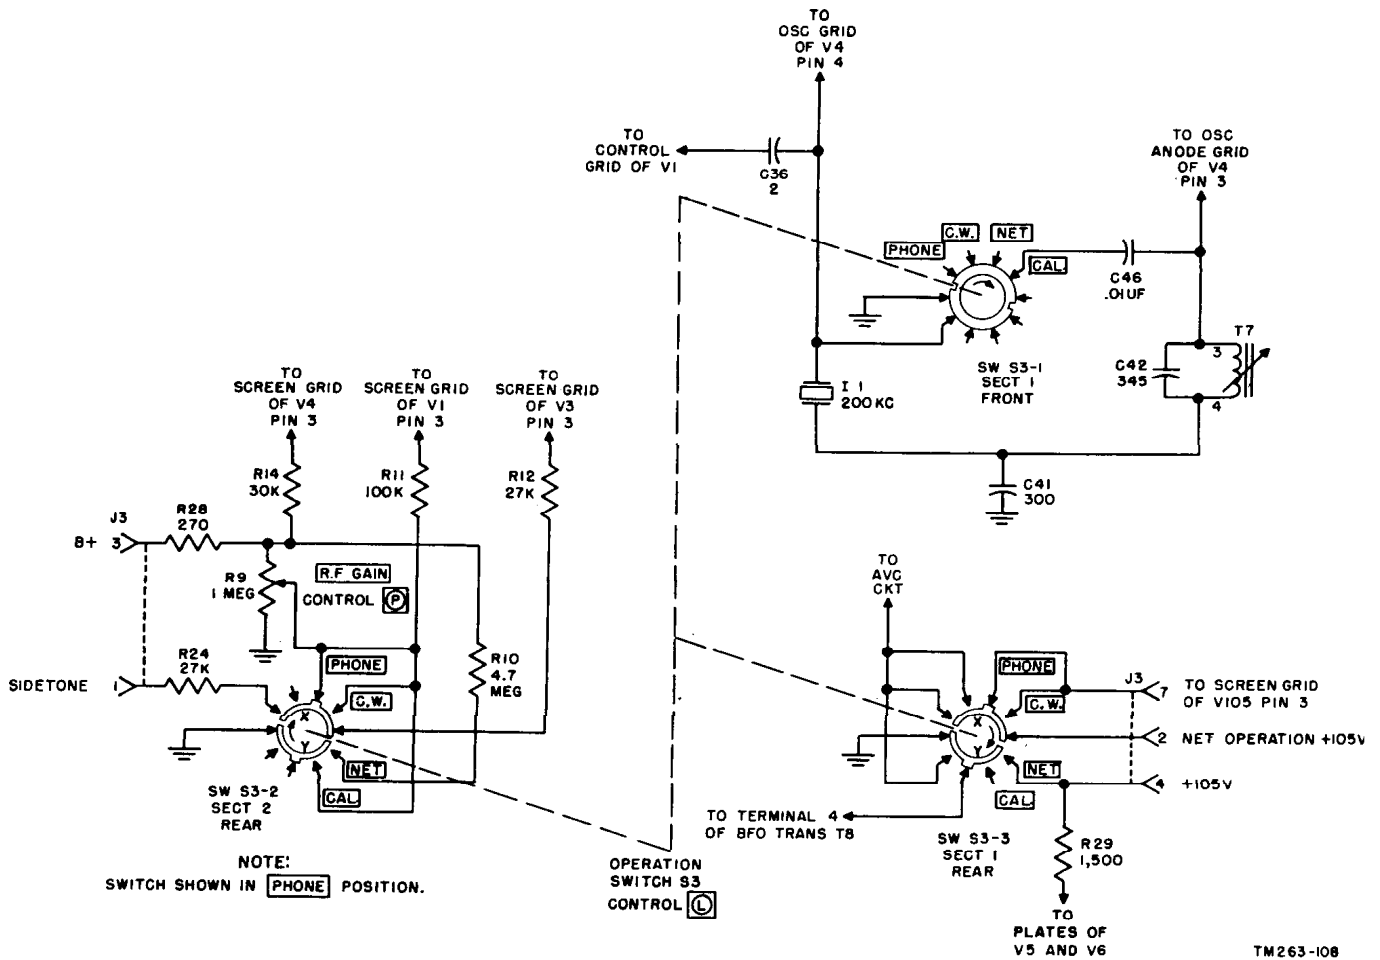

Figure 65. Operation switch S3, simplified schematic diagram.
a. Two if. amplifier stages are used: the first stage, V3, uses tube type 1L4, and the second stage, V4, uses tube type 1R5. The primaries and secondaries of if. transformers T4, T5, and T6 are shunted by capacitors C31 and C32, C37 and C38, and C44 and C45, respectively. These capacitors, combined with adjustable powdered iron cores inserted in the primary and secondary coils, tune the transformers to 456 kc. The 456-kc signal from the plate of V2 is applied to the primary of T4, appears in the secondary by induction, and is applied to the control grid, pin 6, of V3. Capacitor C35 acts as an rf bypass for the screen grid of V3. Capacitor C35 acts as an rf bypass for the screen grid of V3. Capacitor C46 is the screen grid bypass for V4 in all positions except the CAL. position of operation switch S3 (par. 95). Resistor R14 is the screen-dropping resistor for V4. The avc voltage supplies bias to V3 through the secondary of T4. Capacitor C33 is used as a filter capacitor for the avc as well as completing the rf path from the low side of the secondary of T4 to ground. Capacitor C40 is a bypass capacitor for the B+ supply line. The gain of V3 is controlled manually by potentiometer R9, R.F. GAIN, control Ⓟ, which varies the voltage supplied to the screen grid. During net operation only, the gain control is removed from the circuit and R10, a large fixed resistor (fig. 65) is substituted in its place. Refer to paragraph 95 for the description of this switching circuit.
When operation switch S3-1 (fig. 65) is in either the PHONE, C.W., or NET position, the oscillator portion is shorted out and the tube acts as a straight if. amplifier. No avc voltage is applied to the control grid of V4. A very small bias exists only between the control grid and the center of the filament element because the low side of the secondary of T5 is connected to filament pin 1 (ground). Plate voltage is fed through rf filter resistor R15, which is bypassed to the filament ground line by filter capacitor C43.
### 95. Operation Switch S3 (fig. 65)